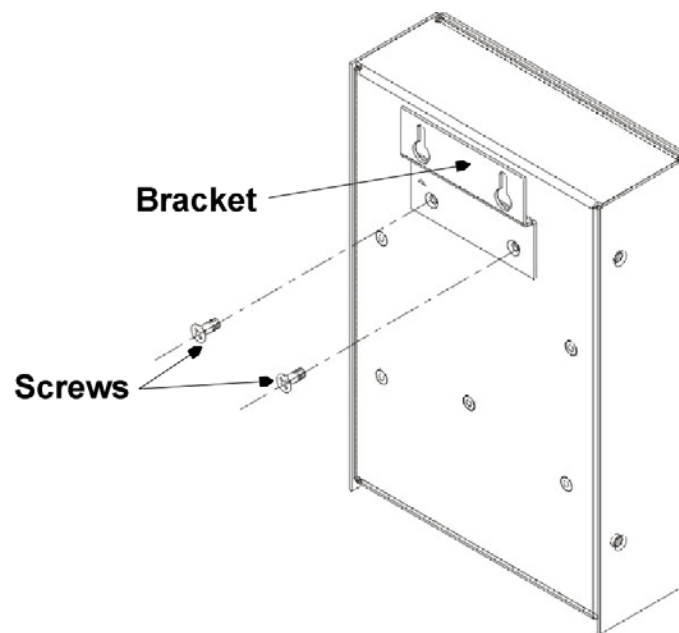

Figure 4: Fastening a Wall Mount Bracket to the MC102
5. Place the MC102 on a desktop (flat stable non-conductive, static-free surface) or mount it on a wall after fastening the wall mount bracket with two screws as shown in *Figure 4*.